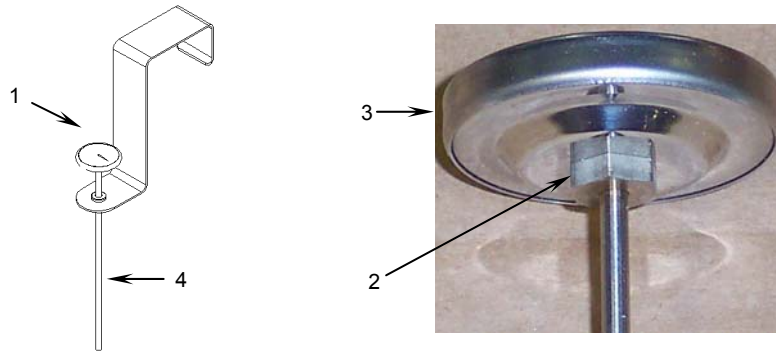

Figure 1. Thermometer Assembly.
2. Remove thermometer assembly (**Figure 1, Item 1**) from sink and allow the assembly to cool to ambient temperature.
5. Insert the thermometer stem (**Figure 1, Item 2**) at least 2 inches into the ice and wait for the temperature reading on the thermometer to stabilize.
6. If the thermometer does not read 32°F, secure the hex nut (**Figure 1, Item 3**) under the thermometer head with a wrench and rotate the head (**Figure 1, Item 4**) so that the thermometer reads 32°F.